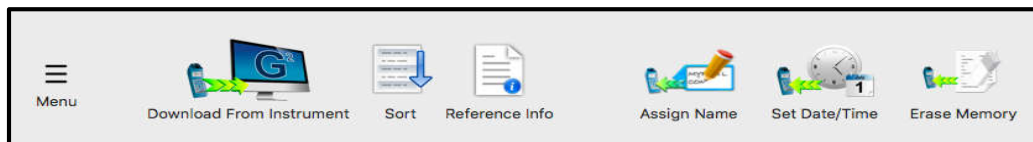

Figure 9
- The Command Ribbon (Figure 9)
Each open Data Window has its own COMMAND RIBBON (Figure 9) which includes quick action buttons see below: